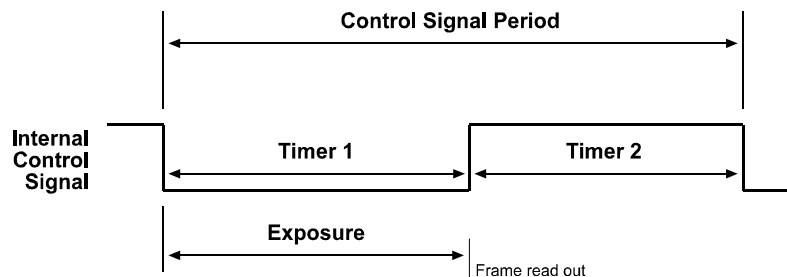

Figure 3-7: Free-run, Programmable Mode
- In **free-run, programmable mode**, the camera generates a continuous internal control signal based on two programmable parameters: “Timer 1” and “Timer 2.” Timer 1 determines how long the internal control signal will remain low and Timer 2 determines how long the signal will remain high. Pixels are exposed and charge is accumulated when the internal control signal is low. The length of the control signal period determines the camera’s frame rate. The control signal period is equal to Timer 1 plus Timer 2. The frame is read out and transferred on the rising edge of the internal control signal. See Figure 3-7.